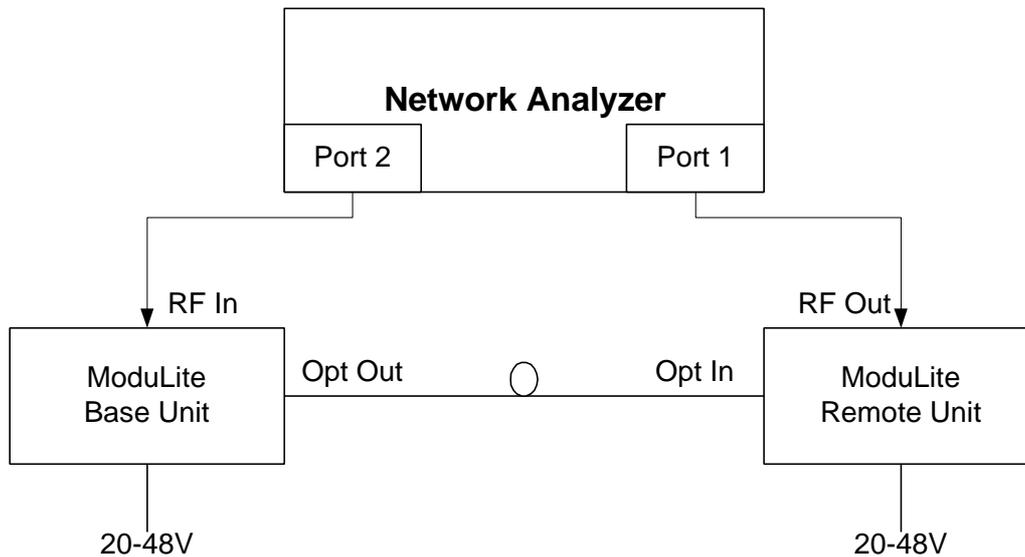

Figure 10: Network Analyzer Setup Test
2. On the Network Analyzer, the Modular Remote Cabinet connects to port 1 (see Figure 10).